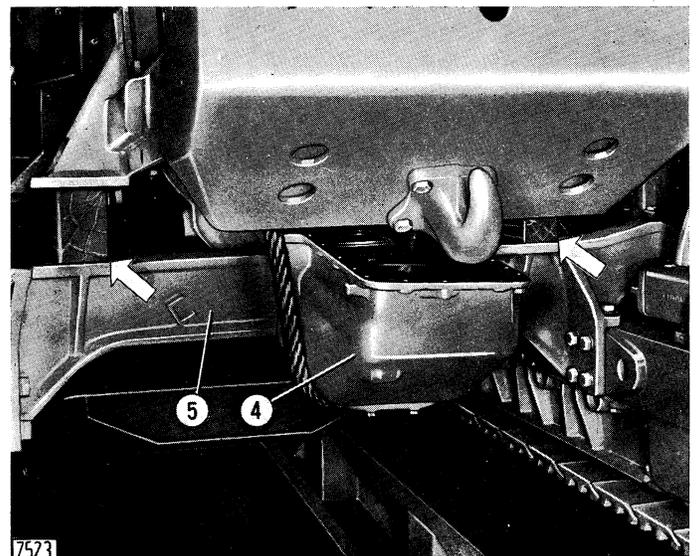

Fig. 10 - Removing (or Refitting) the Oil Sump with the Engine in Position on the Machine
- Remove machine frame bolts from crossmember (5, Fig. 10) and track carriage rear supports.